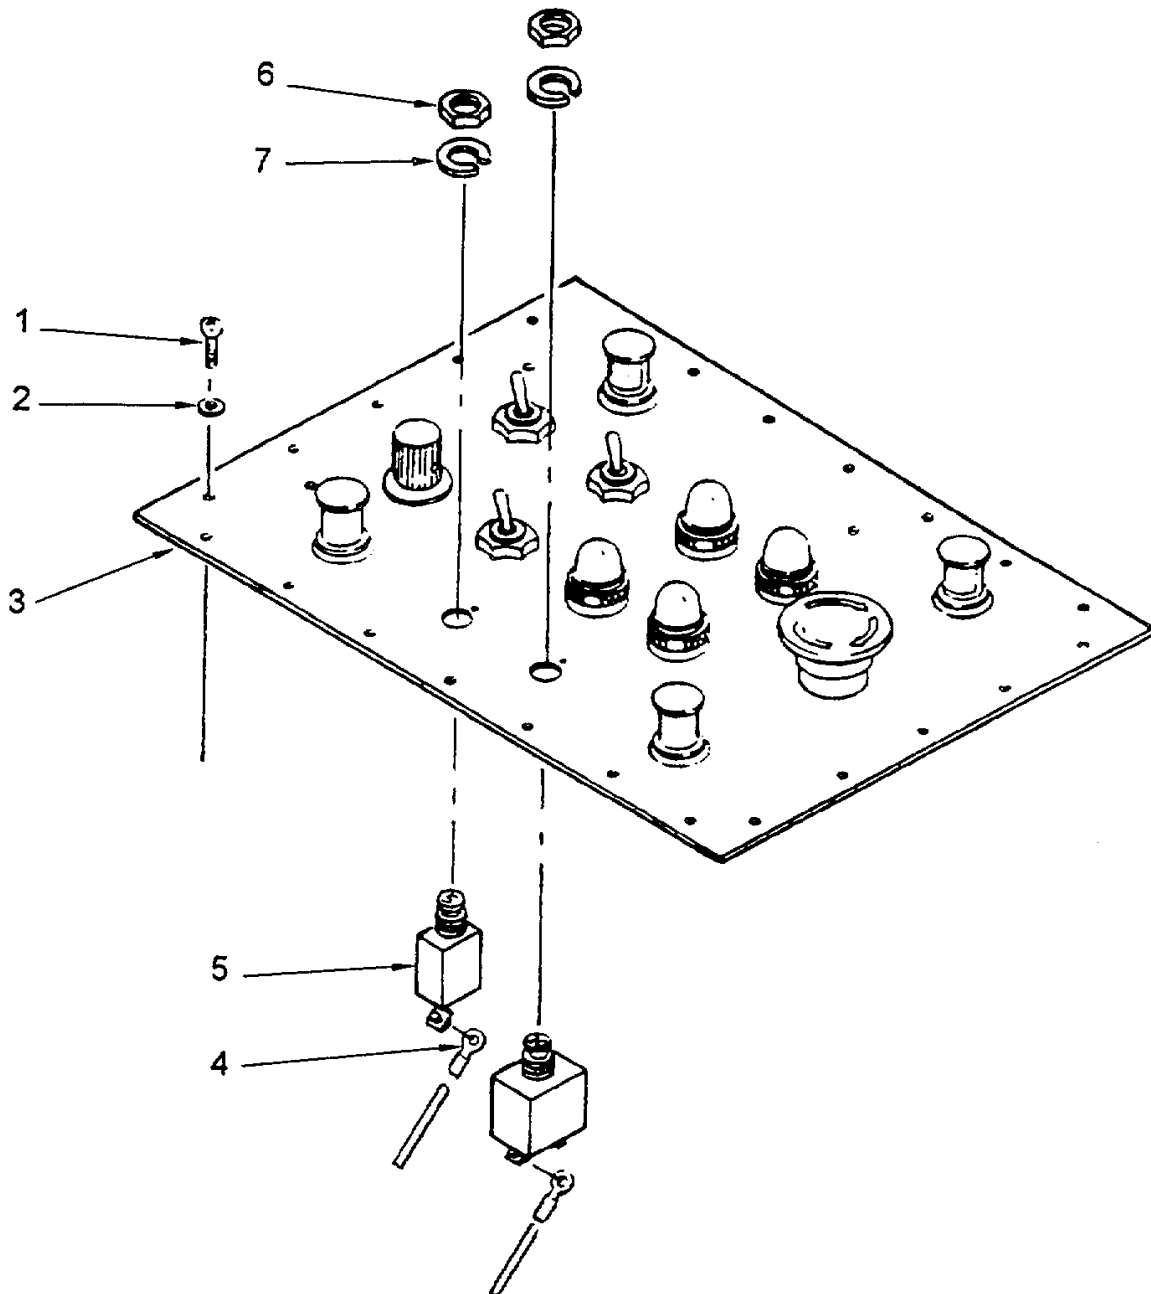

Figure 5-15. Circuit Breaker Replacement
5.7.6 Replace Circuit Breakers CB1 or CB2. (Refer to figure 5-15.)